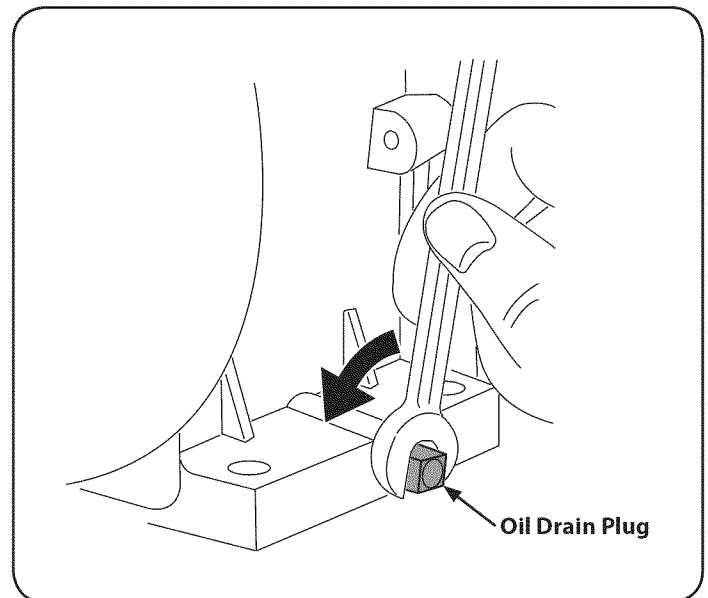

Figure 12
3. Remove the oil drain plug, Figure 12.